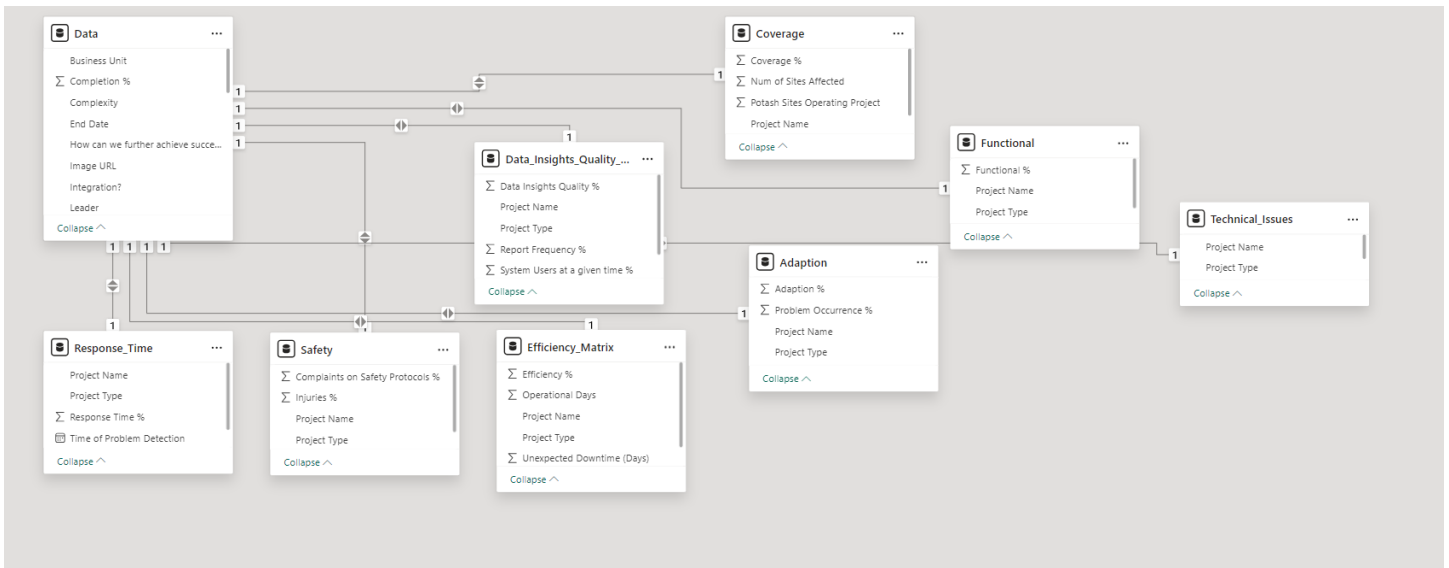

Figure 11 Data Model generated for the dashboard documentation
From Figure 11, it can be noticed that there are nine tables in total with one parent table that helps to connect the primary keys of all the other tables. The parent table, “Data”, consist of the primary keys named “Project Name” and “Project Type” which helps it to connect to all the other eight tables with the same key. Each of the eight tables are a representation of the eight metrics that are used in this dashboard to visually depict the progress of the dashboard. When information about a specific project is added/ modified/ deleted, the refresh button in display (L) can be clicked. It may take a moment for the changes to load and once it is loaded, the changes will be depicted in the data model and the data sheets as well.